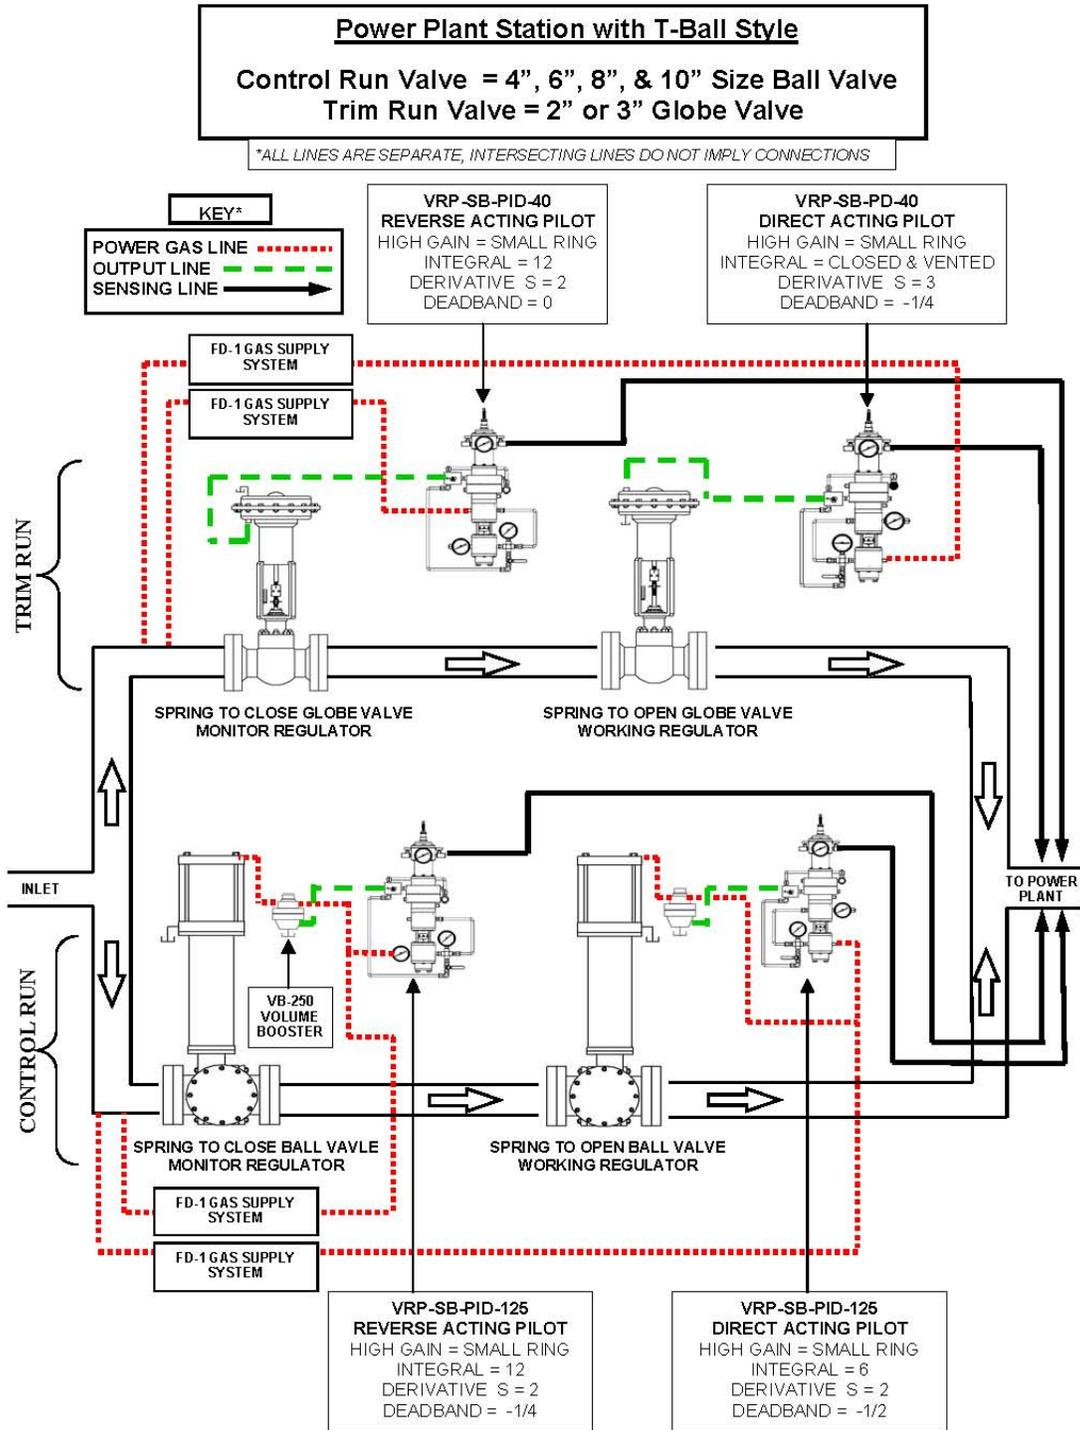

Fig. 2
- **Ball Valve / Globe Valve** – As the picture shows below, this design has a Main Run Ball Valve worker and monitor set and the Trim Run has a Globe Valve worker and monitor set. (See the P&ID on the following pages - Fig 2)